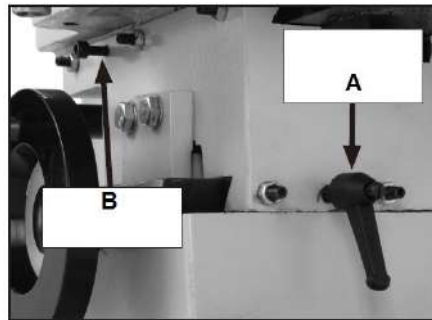

Fig 10
4. Use the table forward/backward lock handle (A Fig 10) to prevent the table from moving forward and back when cutting a horizontal mortise.
5. Tighten the table left/right lock screw (B Fig 10) to lock the table in place when cutting a vertical mortise.